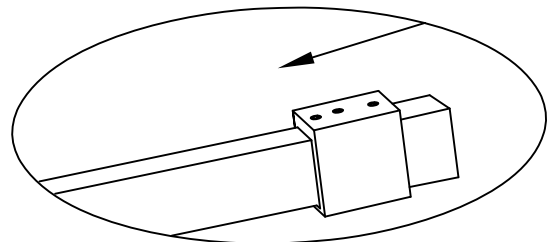

Fig. 10
- Loosen set screws on Rail End Assembly (5) (6) and remove wall mount (6) from Rail End (5). Next slide the Rail End (5) on to end of Top Rail (2) to be connected shower wall. Loosely tighten the Rail End (5) into place on Top Rail (2). See Fig.10 for details.